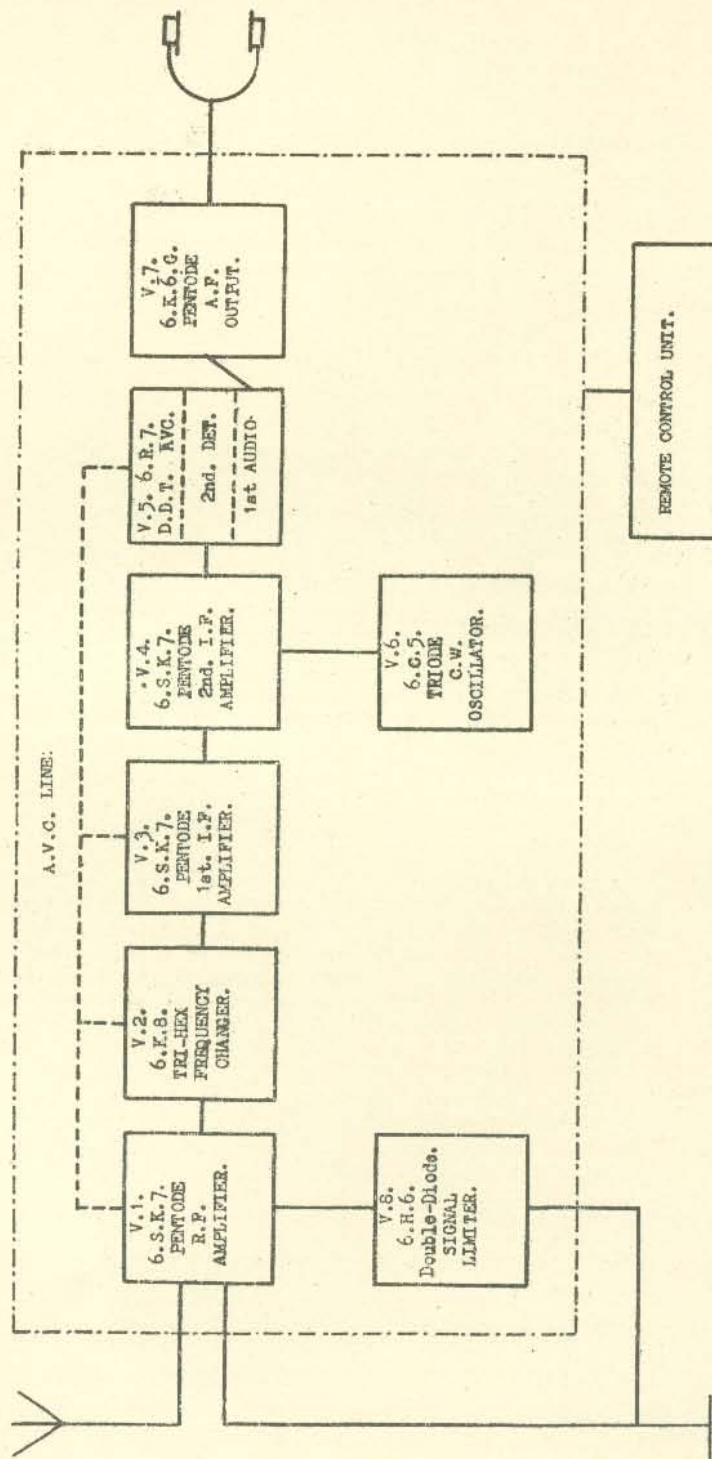

Fig. 95.—Block diagram receiver, R.A.—10DA
5. Receiver (block diagram fig. 95).—(i) *Frequency range* :—